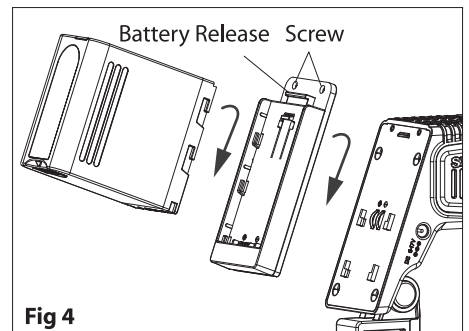

Fig 4
- ① Align the S-7004 series battery plate to the DV mount slot to same side, and press tightly in. Then slide the S-7004 downward to snap together. See Fig 4
- ② Fix the DV mount with two screws.
- ③ Make sure the light is switched off (turn the switch to "O"). Mount a fully charged battery to the S-7004 mount. Fig 4